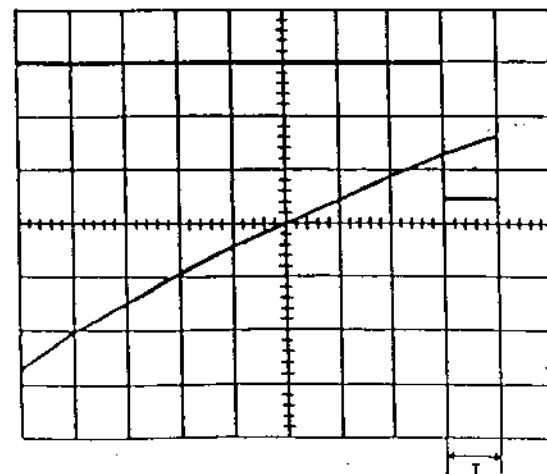

Fig. 6
- (1) Connect CH-1 on the oscilloscope to TP2001 and connect CH-2 on the oscilloscope to TP2003.
- (2) Adjust VR2002 so that the "I" portion measures $2.0 \pm 0.3 \text{ msec}$ as shown in Fig. 6.